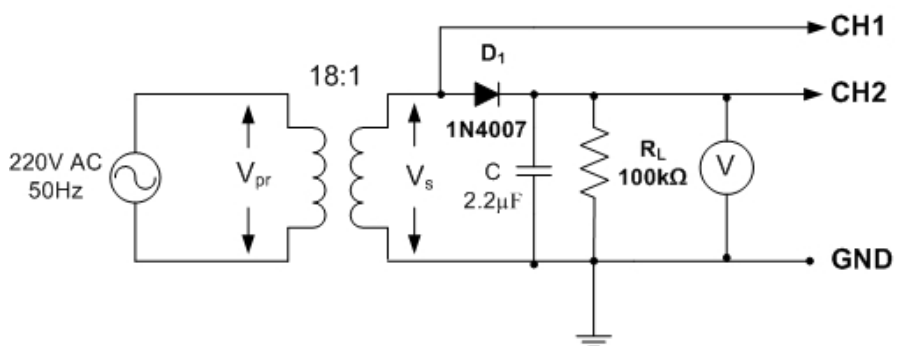

Figure 9: Practical Capacitor Filter Connected to the Half-Wave Rectifier
1. Connect a capacitor filter at the output of the half-wave rectifier as shown in Fig.9, and measure the DC output voltage and peak-to-peak ripple voltage in the output.